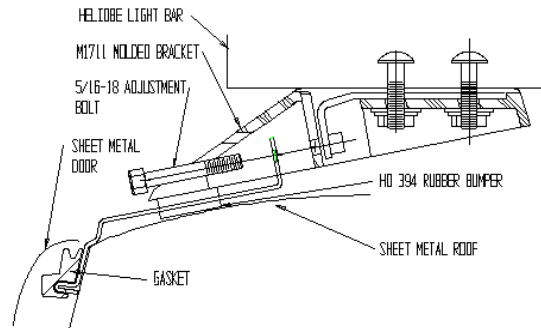

Figure 1
Check to see that all components shown in figure 1 are included.
- B. Place the light bar on the vehicle roof. The unit is usually located approximately over the drivers head with the hook located above or near the center door post. **CAUTION** Water may leak into the vehicle if the hook is improperly positioned. See figure 1.